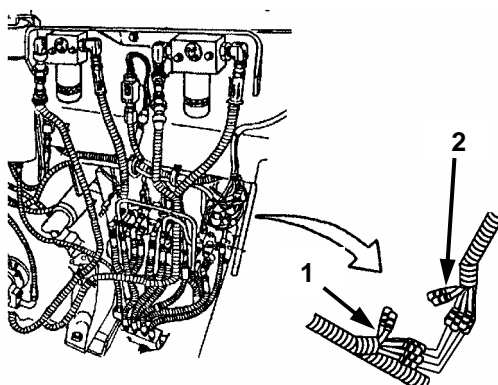

Figure 2-39. Harnesses (2 of 2).
9. Remove hull wiring harness (Figure 2-39, 2) leads #514 and #515 from control harness (1).